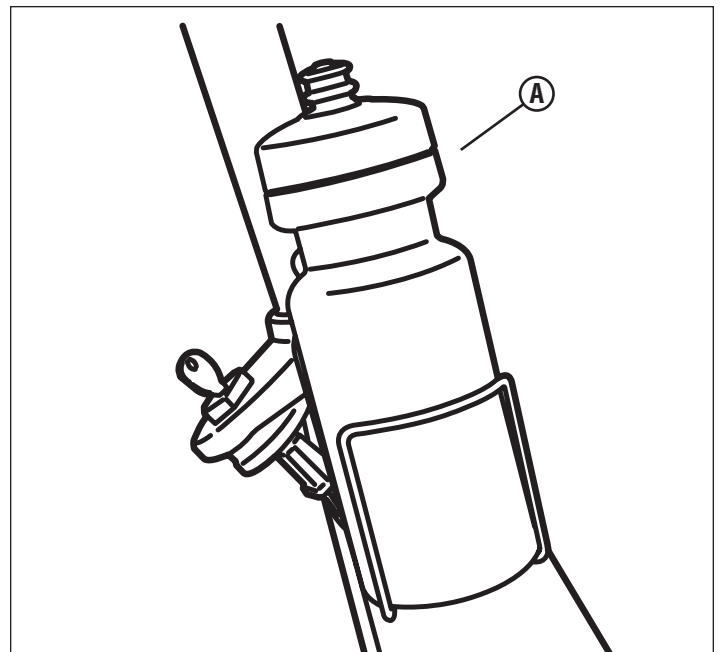

Figure 21
- Insert the water bottle (A, Figure 21, next page) into the holder.